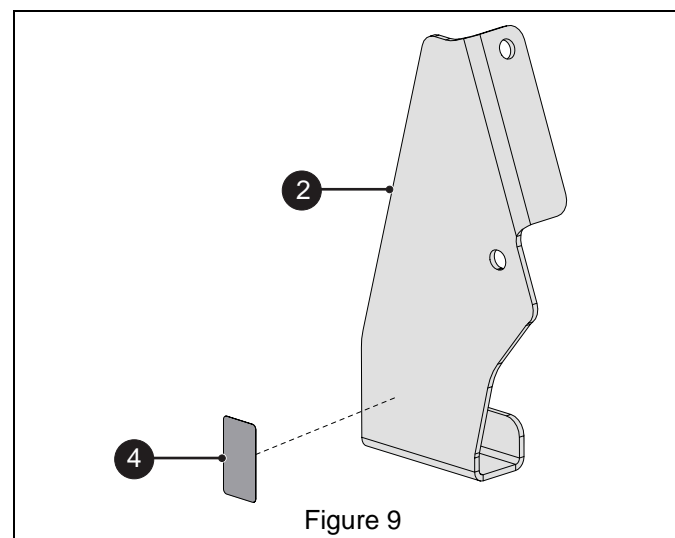

Figure 9
1. Clean surface thoroughly and attach one transmission disconnect decal (item 4) to left-side support bracket (item 2). See Figure 9.